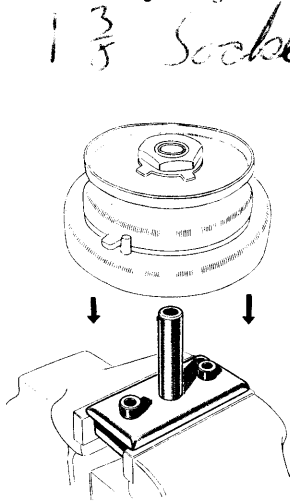

Fig. 1
- Place the variator on this tool (fig. 1).
- Install the variator hub on the dismantling tool, No. 100026 (fig. 1).